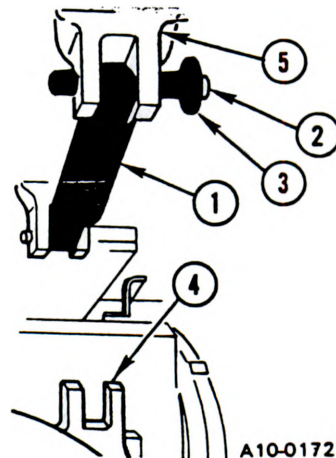

Figure 3-2. Main gun elevation travel lock as shown in TM 9-2350-255-10-1, M1 Operator's Manual.
*g.* The gun elevation travel lock must be installed for all modes of transportation (fig 3-2).